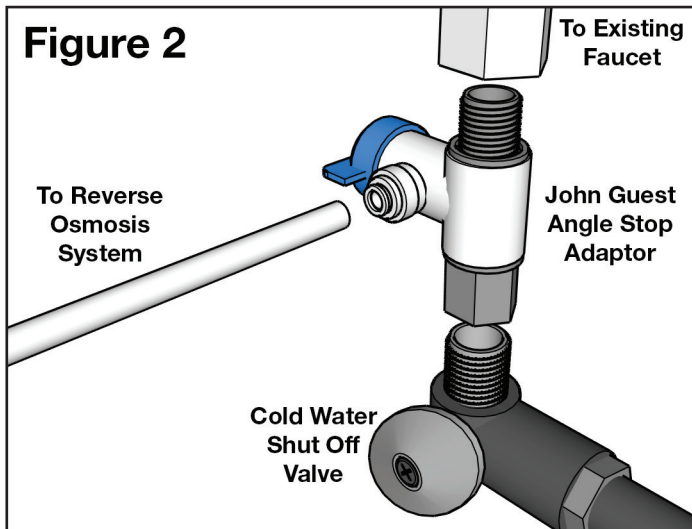

Figure 2
A **John Guest Angle Stop Adaptor** is used to supply feed water to the RO unit and provide easy ability to shut off the water supply when servicing the unit. (See Figure 2)
3. John Guest Angle Stop Adaptor (See Figure 2)